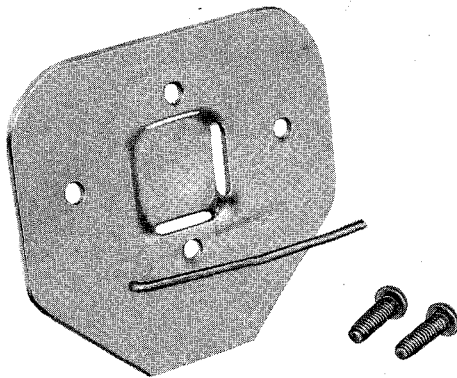

Fig. 34—114A Bracket
- 114A bracket (Fig. 34)—use with 123- and 128-type protectors for indoor or outdoor locations.